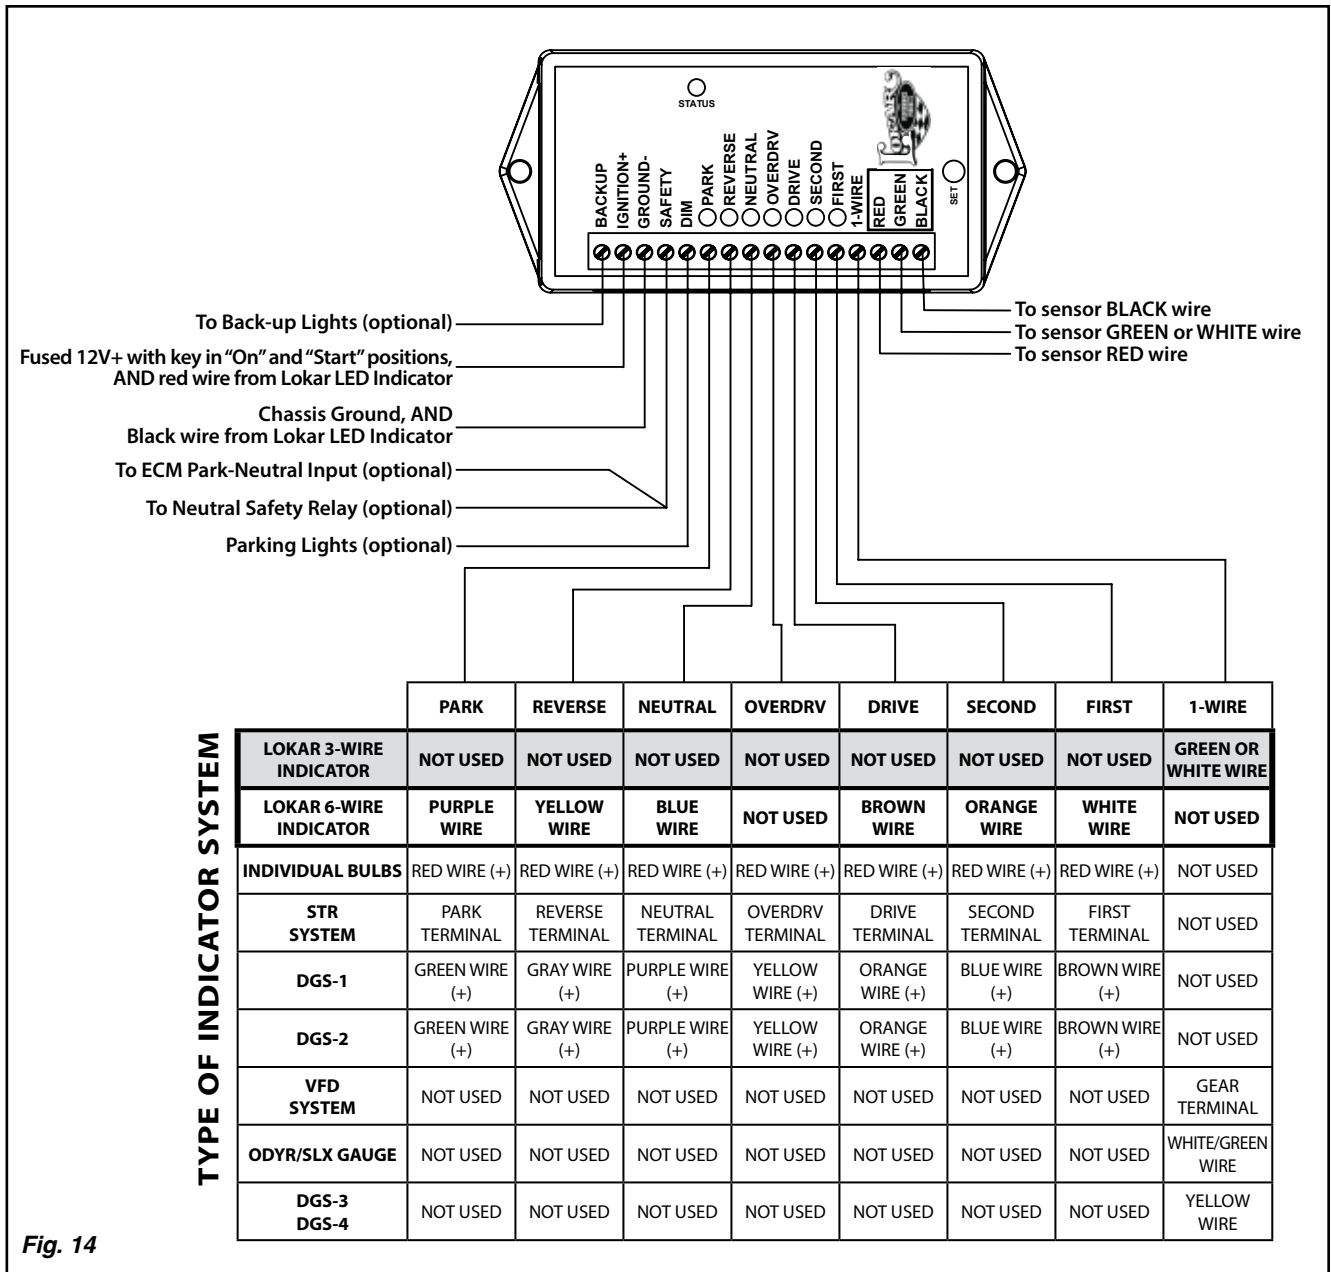

Fig. 14
Step 25: Following the wiring diagram in **Fig. 14** for your type of indicator, connect the rest of the wires from the LED indicator to the decoder box.